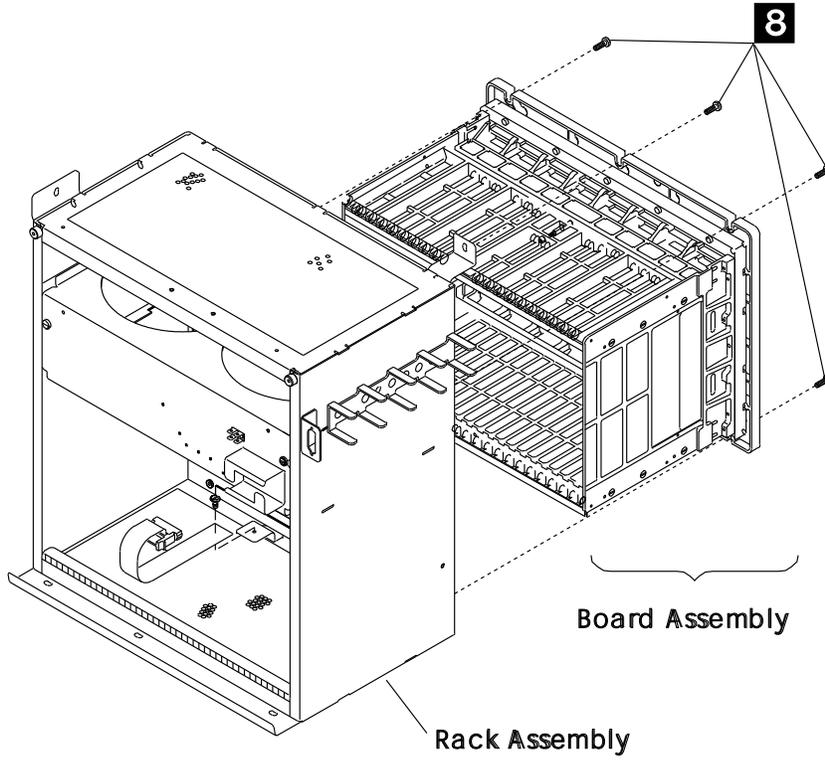

Figure 4-111. Basic Assembly 1
30. Remove the six screws **8** which secure the board assembly to the rack assembly. Refer to Figure 4-111.
4. Install the board assembly on the rack assembly and fasten it with the six screws **8**. Refer to Figure 4-111 on page 4-81.